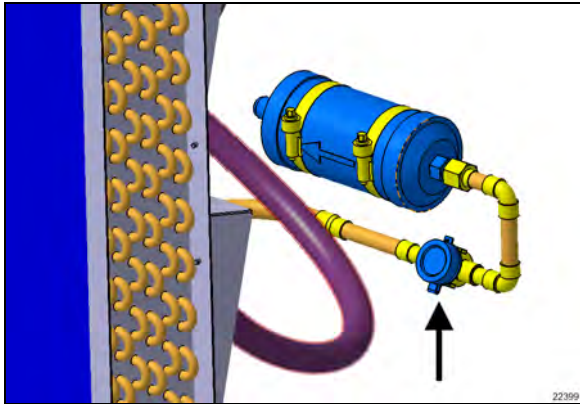

FIGURE 58: MOISTURE INDICATOR SIGHT GLASS
- 2- With the AC on for at least 10 minutes, the moisture indicator sight glass (FIGURE 58) should be clear, not milky, without bubbles in the stream of refrigerant. Bubbles in the moisture indicator sight glass are sign of refrigerant low charge. The filter-dryer nearby should be near constant temperature, less than 5°F differential between inlet and outlet. A partially blocked filter will make some flash gas and give a "milky" sight glass.